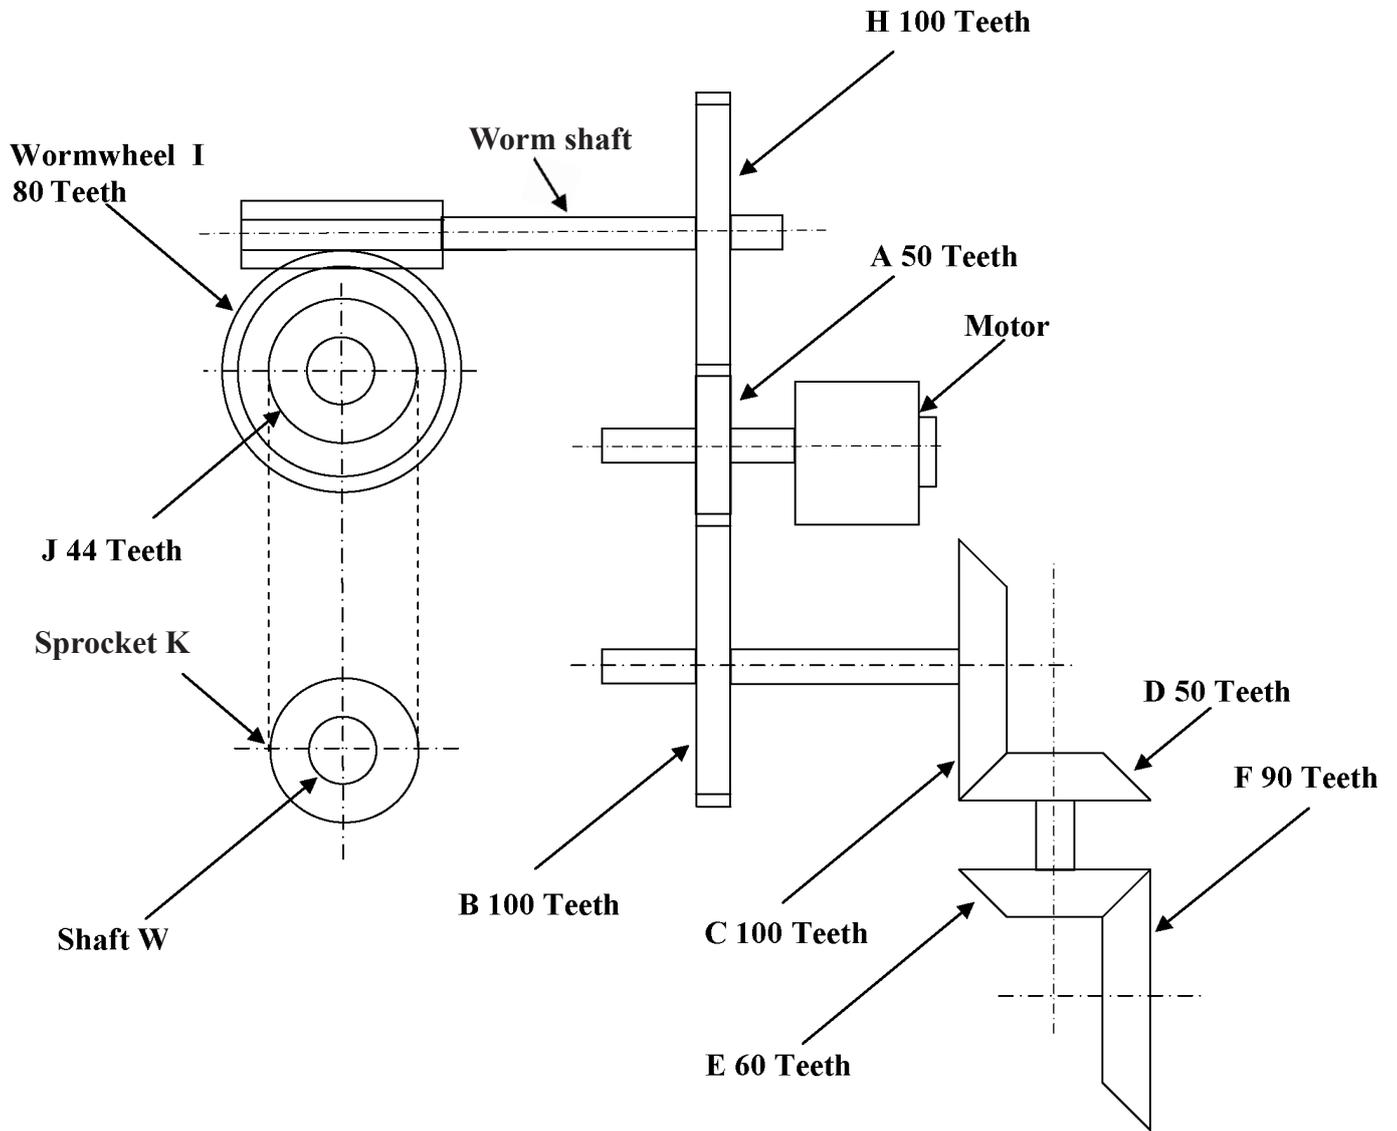

Fig. 7
**11 Fig. 7** shows a prototype mechanical system.
**(b)** On the pro forma provided (answer number **11(b)**), sketch and label a mechanical system to enable anti-clockwise rotations on shaft **W** (also shown on **Fig. 7**) to raise block **X** and alternatively lower it with clockwise rotations.